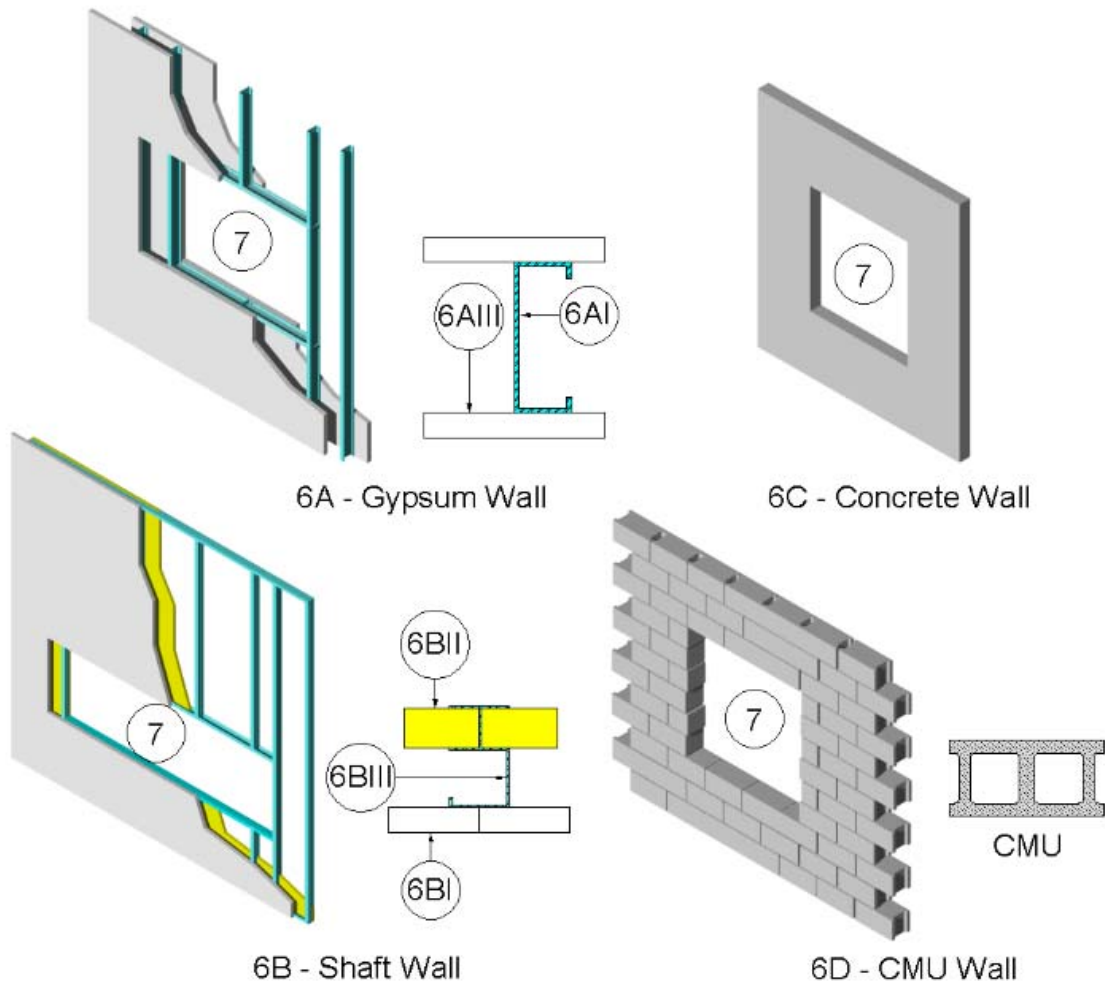

Figure 3
6. SUPPORTING CONSTRUCTION: Refer to Figures 3 and 4. Use one of the following wall or floor assemblies.
- I. Joists – Minimum 2 x 10 wood joists spaced a maximum 18-1/2 in. on center (OC).
7. OPENING: – Refer to Figures 3 and 4. Create an opening in the supporting construction (wall or floor assembly). Determine the opening shape and size to